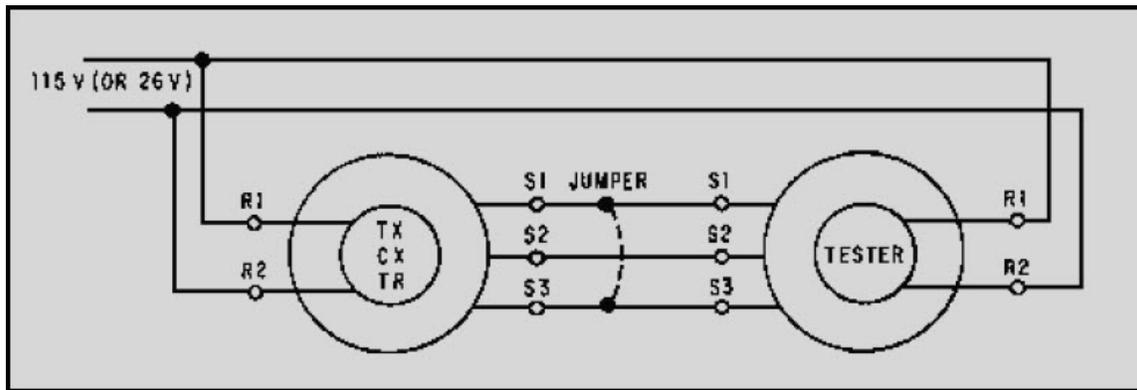

Figure 1-43 Zeroing a synchro using a synchro tester
1. Connect the synchro tester as shown in figure 1-43.